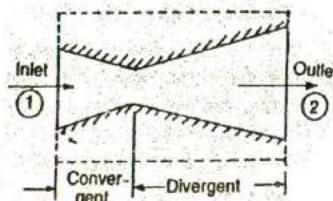

Fig. 3.32. Convergent-divergent nozzle.
4. **Nozzle.** A nozzle, as shown in Fig. 3.32, is a device which increases the velocity or kinetic energy of the working substance at the expense of its pressure drop. The nozzle is insulated so that no heat enters or leaves the system (i.e.  $q_{1-2} = 0$ ). In other words, the flow through nozzles is considered adiabatic. Further, the system does not deliver any work i.e.  $w_{1-2} = 0$  and there is no change in potential energy, i.e.  $(pe_2 - pe_1) = 0$ .